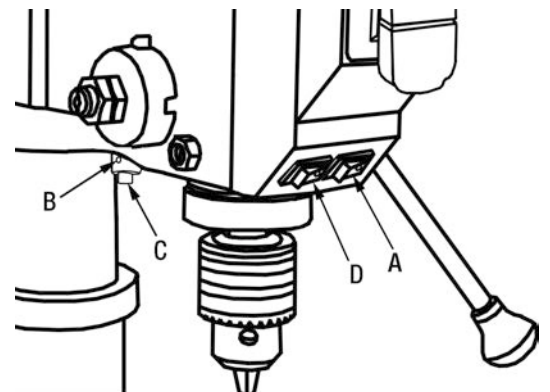

FIGURE 23
If you desire using the dual laser guides, use the laser switch (A) Fig.23 to turn them On or Off. If an adjustment to the laser guides are necessary, proceed as follows;
- 1) Loosen set screw (B) (one set screw for each laser) and then slightly turn laser guide (C) in either direction, this will reposition the laser beams trajectory, adjust the position of the laser guides this way until both beams intersect at the point where the drill bit touches the workpiece. Retighten set screw after each adjustment.